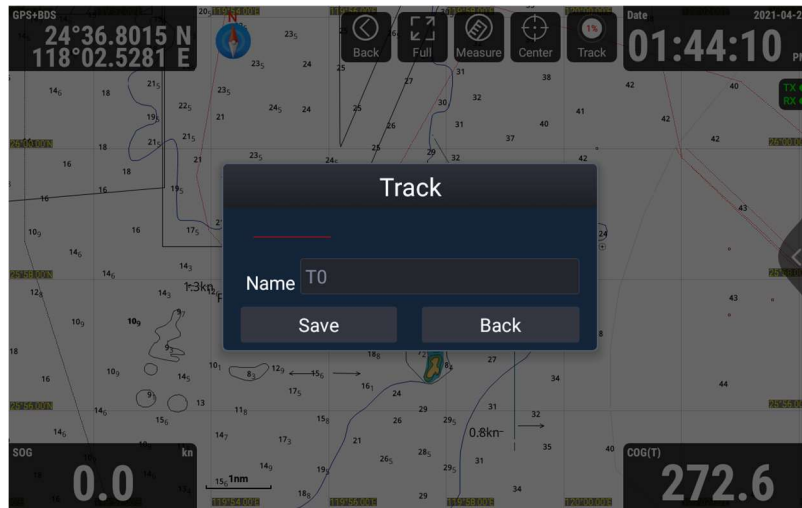

Figure 15 - Create New Track. Enter Track Name.
2. Long press the **Track** icon to pop up the track window as shown in Figure 15. Enter the track name, select Save, complete the new creation and start recording, select Back to cancel the track recording.